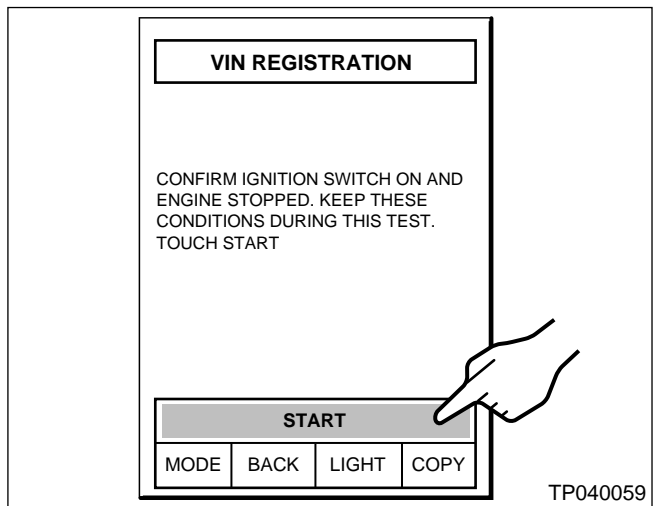

Figure 11
- d. Press **START** on the "VIN Registration" screen. See Figure 11.